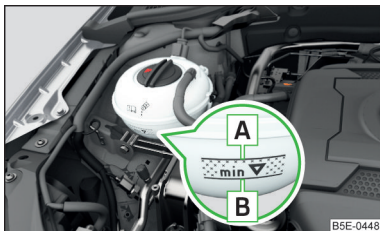

Fig. 181
The description of the coolant is shown in the coolant expansion reservoir » Fig. 181 on page 195.
- Do not fill the coolant above the mark **A** » Fig. 181 on page 195.
Coolant expansion reservoir » Fig. 181
» Check the coolant level in the coolant expansion tank » Fig. 181.
If the engine is warm, the test result may be inaccurate. The level can also be above the mark **A** » Fig. 181.